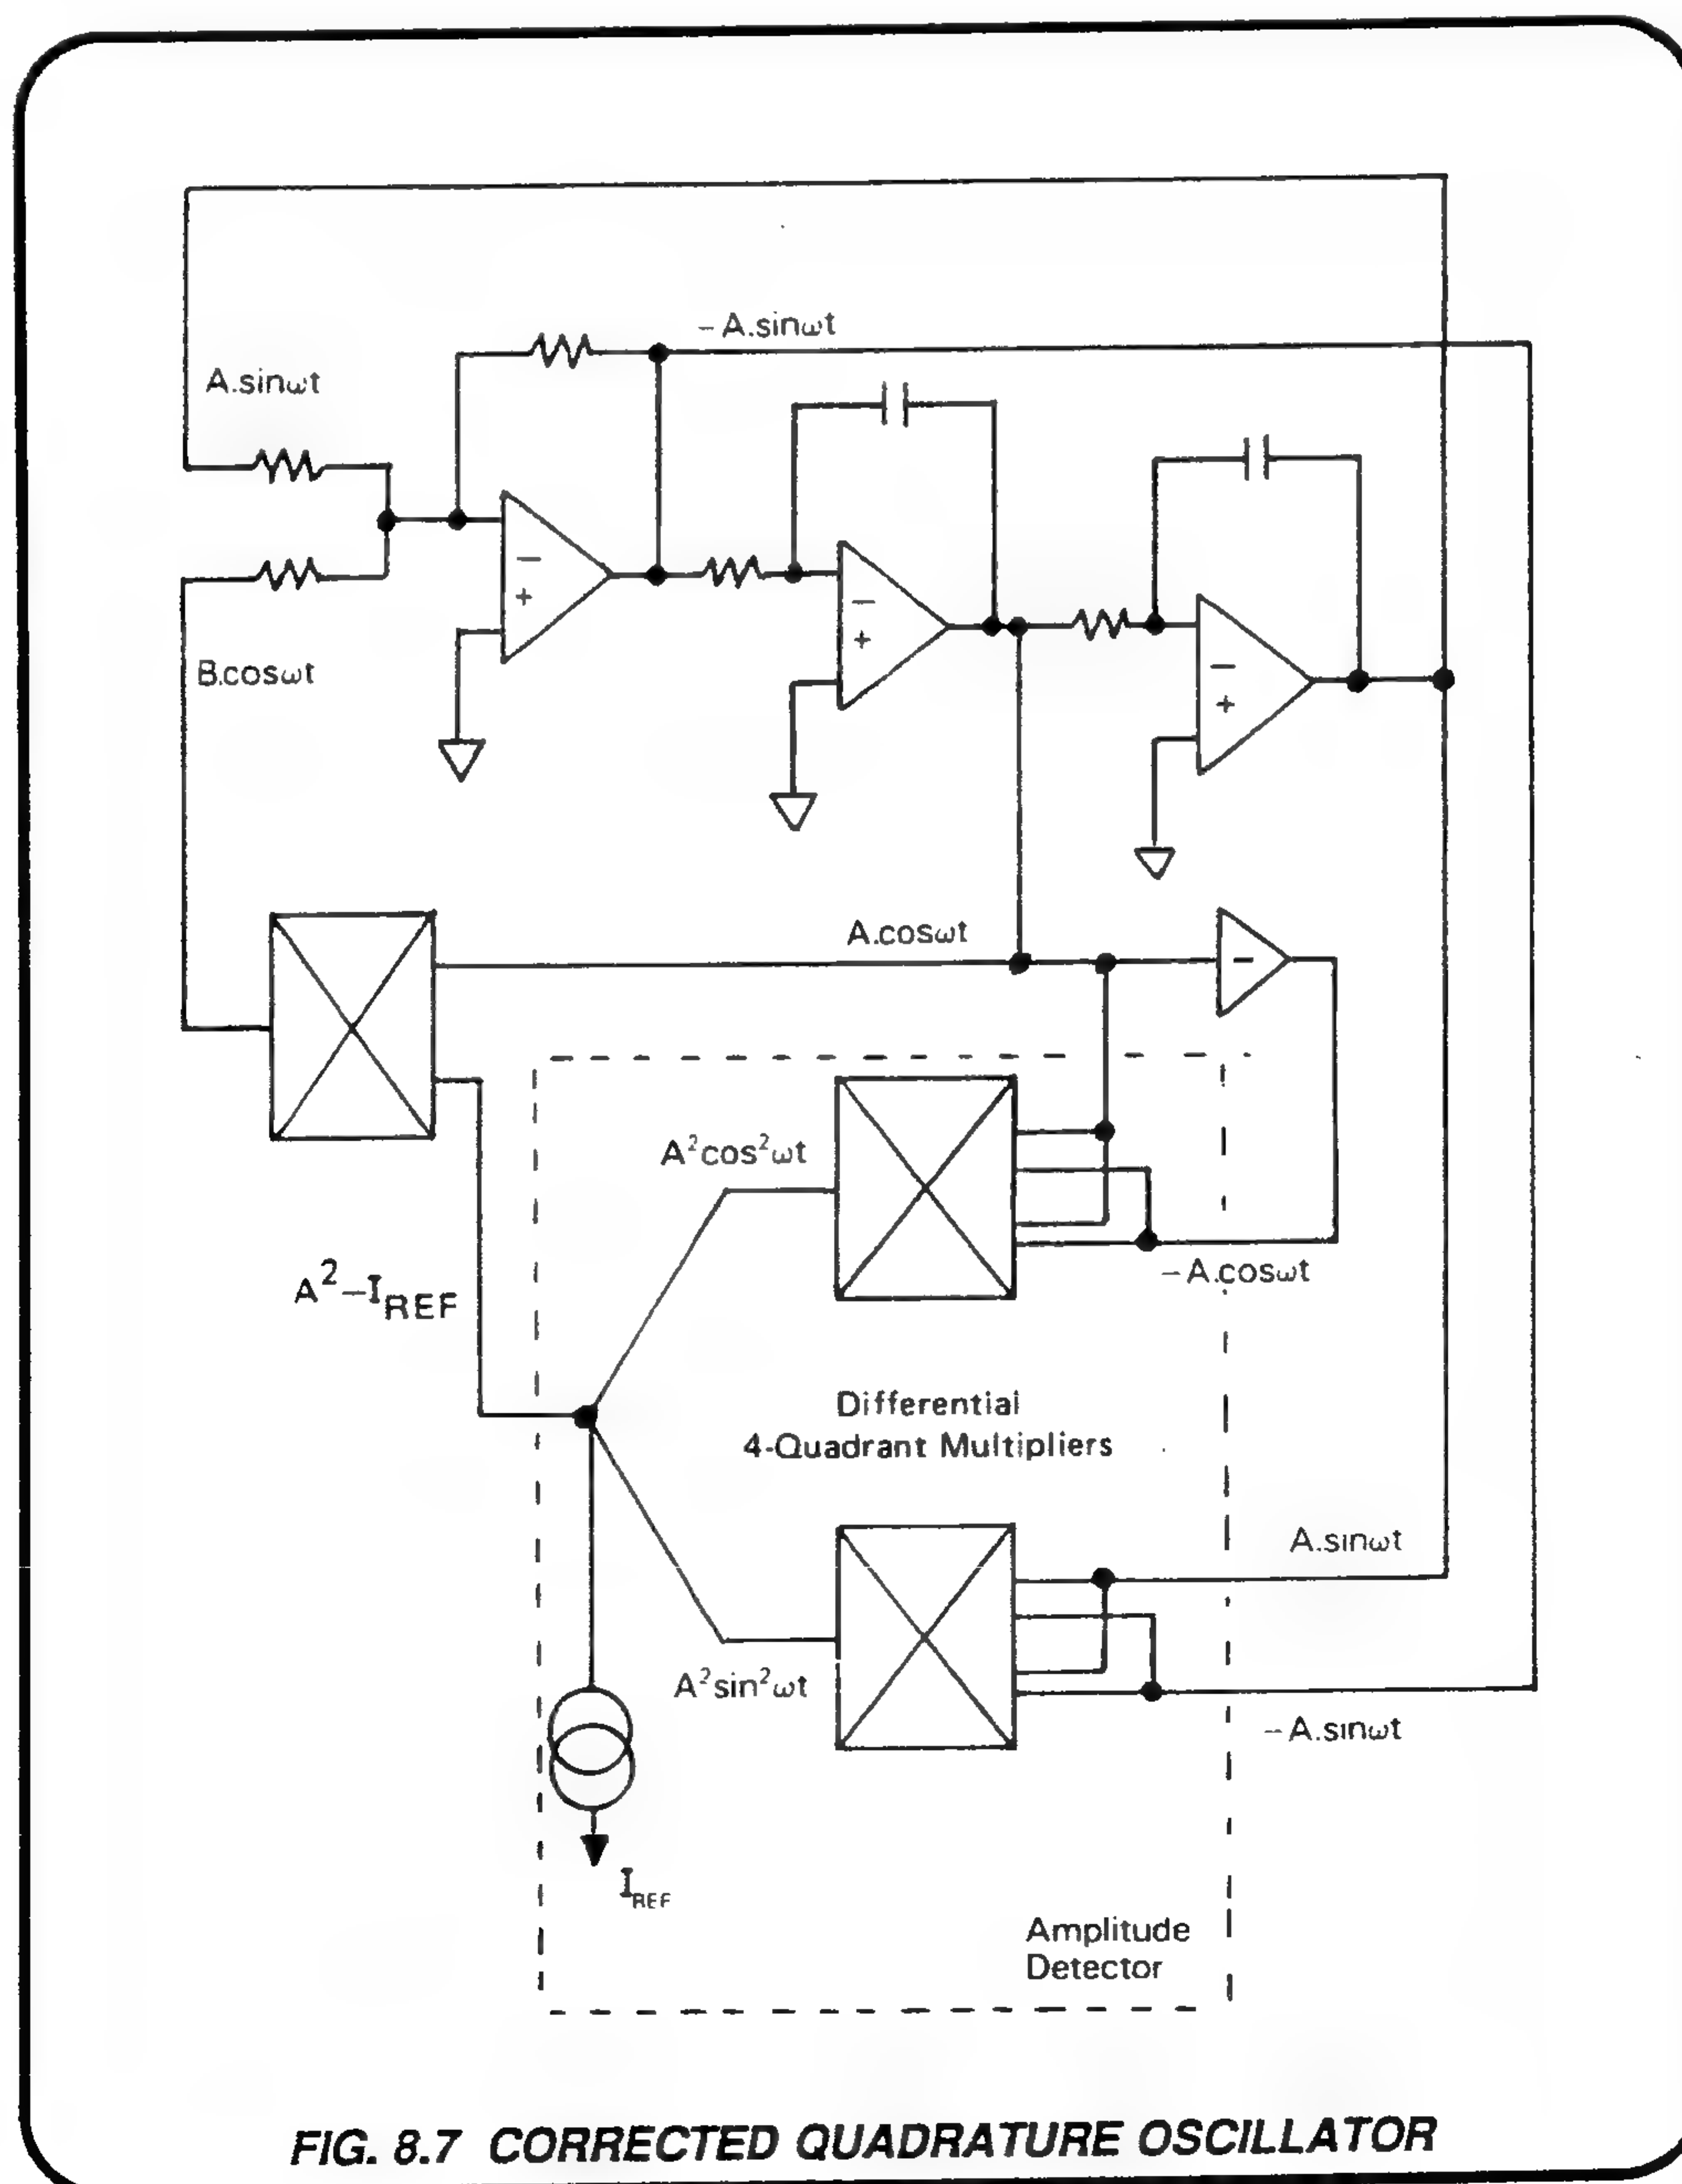

FIG. 8.7 CORRECTED QUADRATURE OSCILLATOR
8.2.3 PRACTICAL QUADRATURE OSCILLATOR (Fig. 8.7)
amplitude, so the amplitude of stable oscillation is defined. In Fig. 8.7 the correction circuit is added.